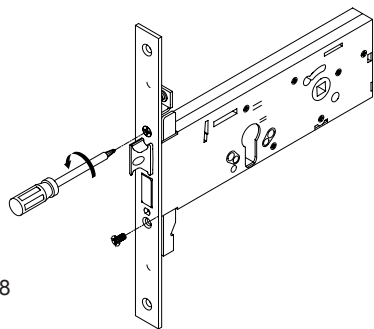
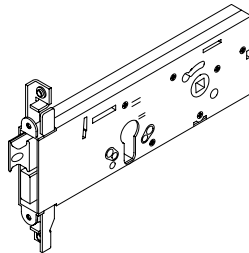
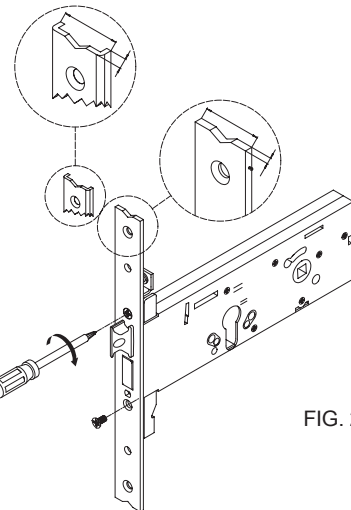
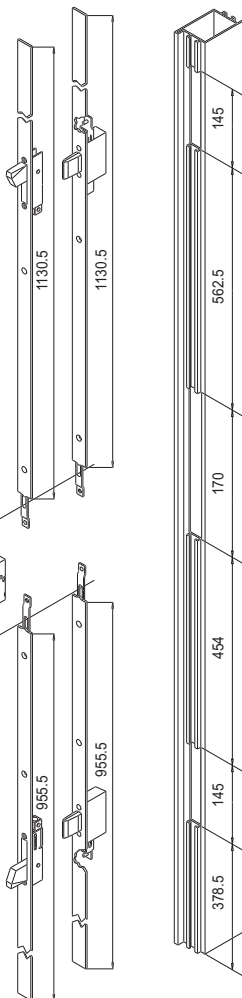

FIG. 18
FIG. 19
FIG. 20
FIG. 21
- G) Fasi di installazione multipunto componibile art. 06444-50/60/65/75 (Fig. 18, Fig. 19, Fig. 20, Fig. 21).
- G) Phases d'installation de la serrure multipoints composable art. 06444-50/60/65/75 (Fig. 18, Fig. 19, Fig. 20, Fig. 21).
- G) Installation steps for modular multipoint locks item 06444-50/60/65/75 (Fig. 18, Fig. 19, Fig. 20, Fig. 21).
- G) Fases de instalación multipunto componible, Art. 06444-50/60/65/75 (Fig. 18, Fig. 19, Fig. 20, Fig. 21).